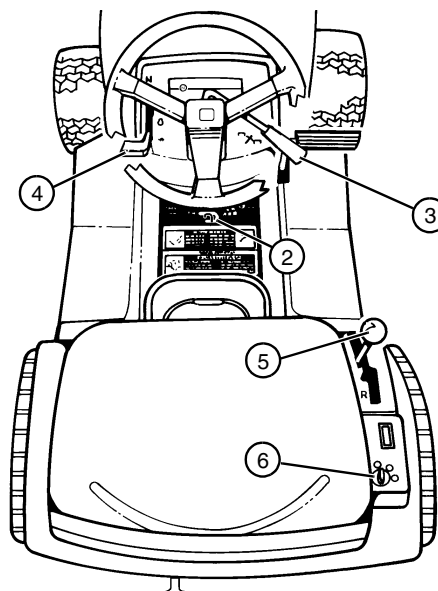

FIG. 15
- Place gearshift lever (5) in neutral (N) position. (See FIG. 15)
- Move PTO drive lever (3) rearward to off position.
- Lock the park brake (2).
- Move throttle lever (4) rearward to low throttle position. Let engine run at low throttle a few seconds.
- Turn ignition key (6) to off position.
- Turn ignition key (6) to off position and remove key.